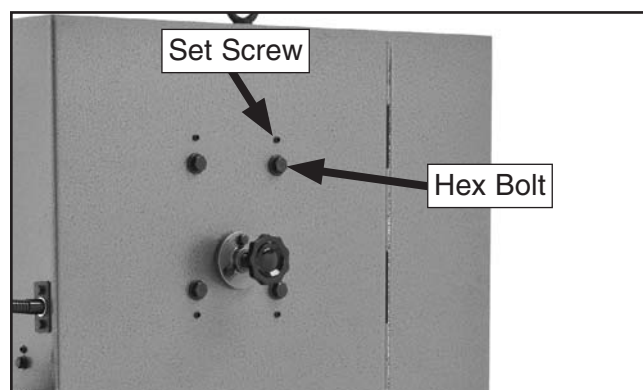

Figure 61. Upper wheel adjustment controls.
2. Loosen the four hex bolts on the upper rear of the cabinet 3–4 turns (see **Figure 61**).